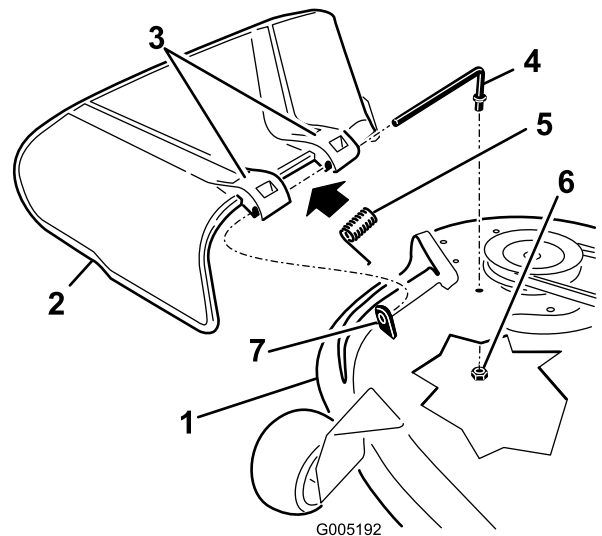

Figure 62
1. Remove the nut (3/8 inch) from the rod under the mower (Figure 62).
2. Slide the rod out of the short standoff, spring, and the grass deflector (Figure 62).
4. Replace the grass deflector (Figure 62).
7. Slide rod through the second grass-deflector bracket (Figure 62).
9. Secure the rear end of the rod into the mower with a nut (3/8 inch) as shown in Figure 62.